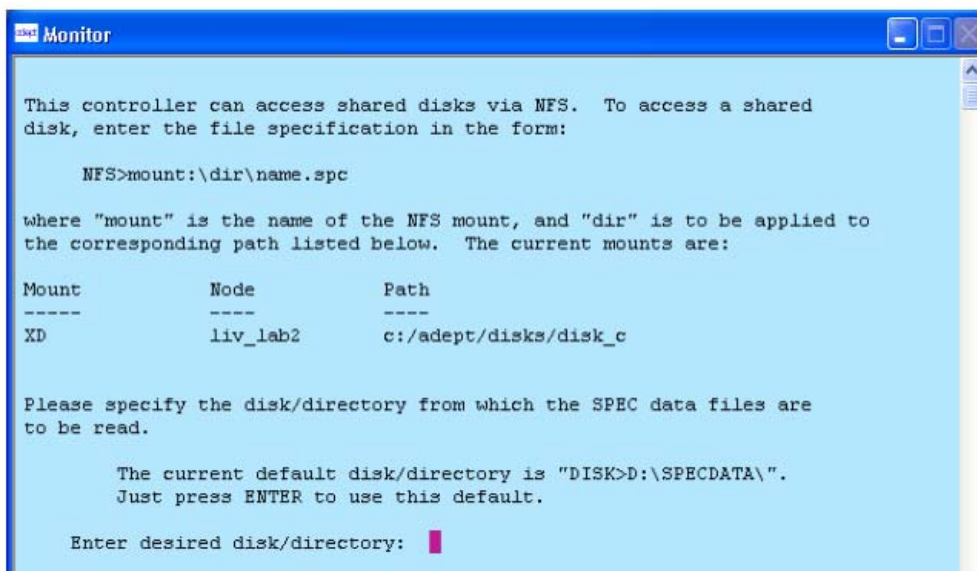

Figure 4-7. DC_SETUP (JTS Coordinated-Joint-Control Module)
3. Select option 2 "SmartAmp/MotionBlox robot config." and press ENTER. Type "Y" and press ENTER to load the robot configuration file. A screen similar to the one shown in Figure 4-7 will be displayed.